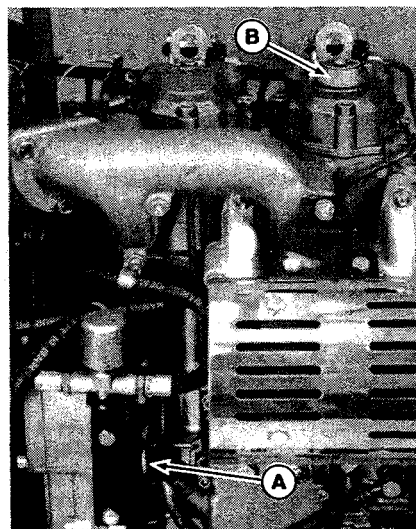

Figure 15.
1. Remove dipstick (A, figure 15) and wipe off.
4. Remove oil filler cap to add oil (2500 milliliters) (figure 15). Do not overfill. Do not use multi-viscosity oils. Use oils of the CD (DS Series 3) service classification. Use the following viscosity, depending on temperature.